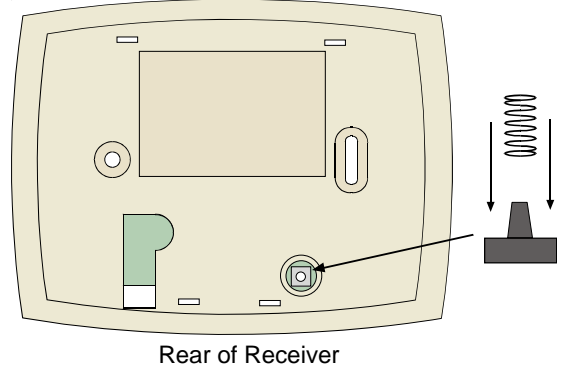

Figure 4 - Installing the Tamper Spring
- Place the spring from the hardware packet over the shaft of the tamper switch located on the back of the receiver (see Figure 4).